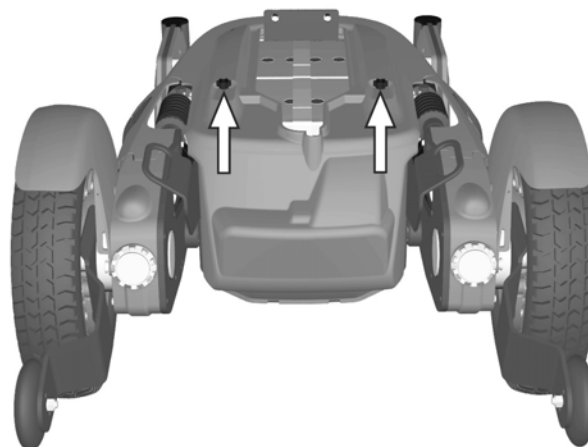

Figure 11. The chassis covers are fitted with two knobs.
6. Assemble the two knobs holding the chassis covers without tightening them. See fig. 11.